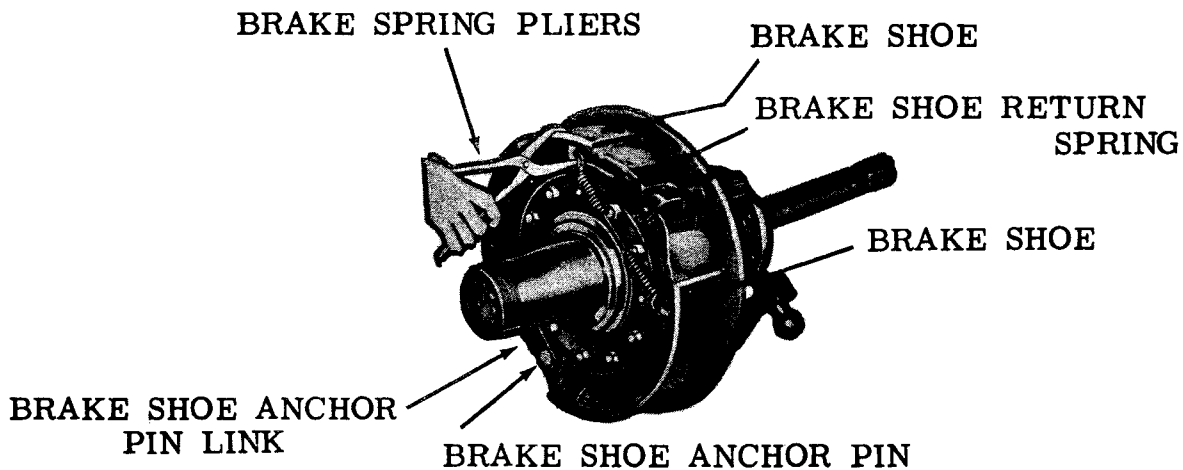

Figure 16. Removing Brake Shoe Return Spring.
- e. Remove brake shoe return spring (fig. 16). Remove the nut, lock washer, and bolt that attaches the brake shoe anchor pin link to the trunnion assembly and remove the link. Slide the brake shoes off the brake shoe anchor pins.